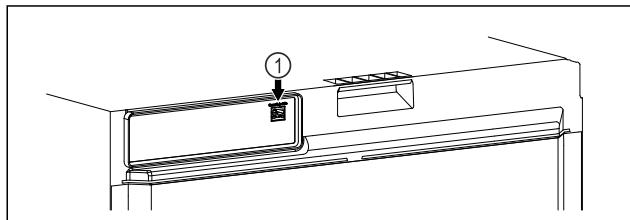

Fig. 117
- SmartModule *Fig. 117 (1)* is inserted.